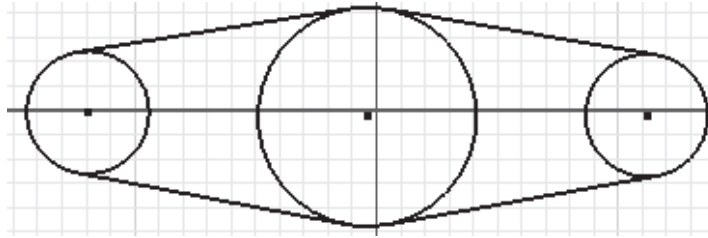

Figure 3-60 Sketch after adding all the constraints
1. Draw the sketch, which is a combination of three circles and tangent lines. Add the **Tangent** constraint to the lines wherever it is missing. Also, add the **Equal** constraint to all the four lines and to the circles on the left and the right. The sketch after drawing and adding the constraints should look similar to the one shown in Figure 3-60.